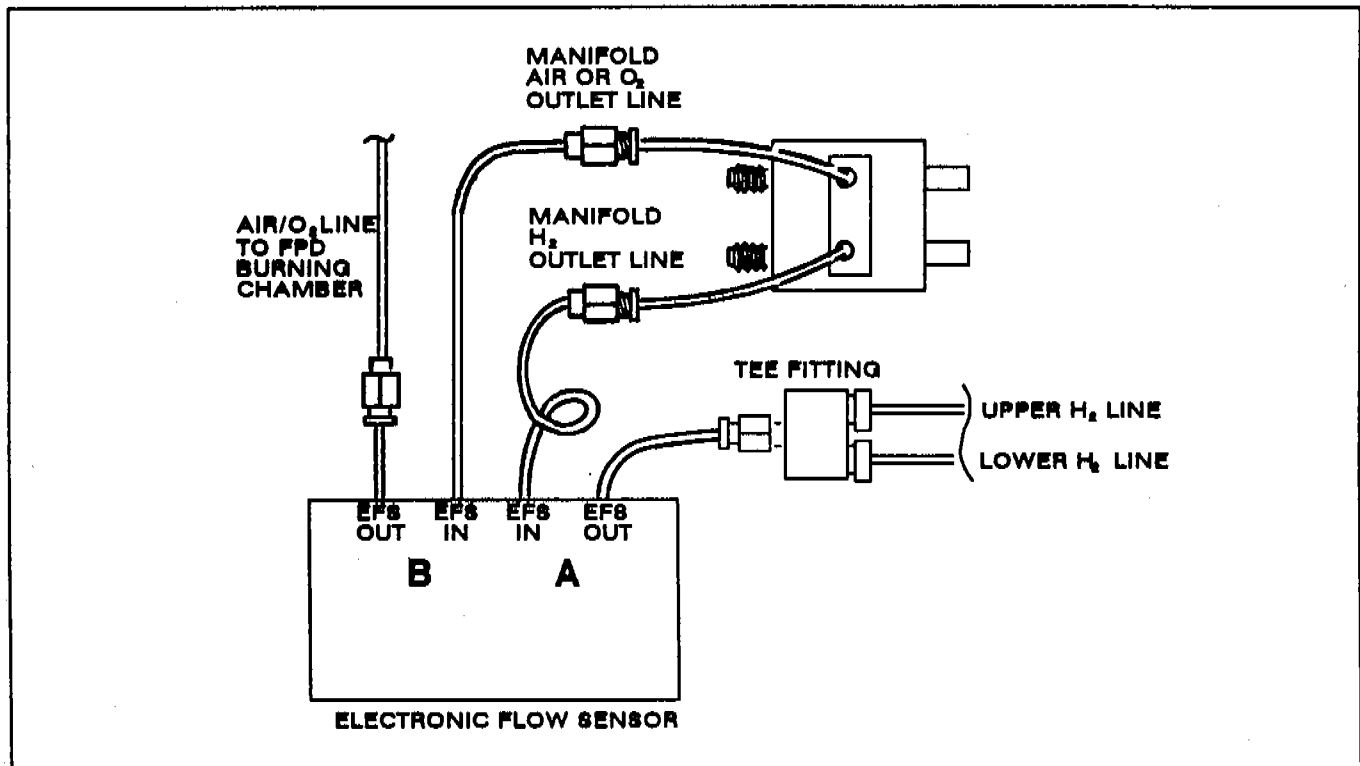

Figure 18. Connecting the FPD to a EFS
9. Connect FPD gas service to the flow manifold block. See figure 18 if gas will be routed through an Electronic Flow Sensor (EFS) and figure 32 for a flow diagram without EFS.